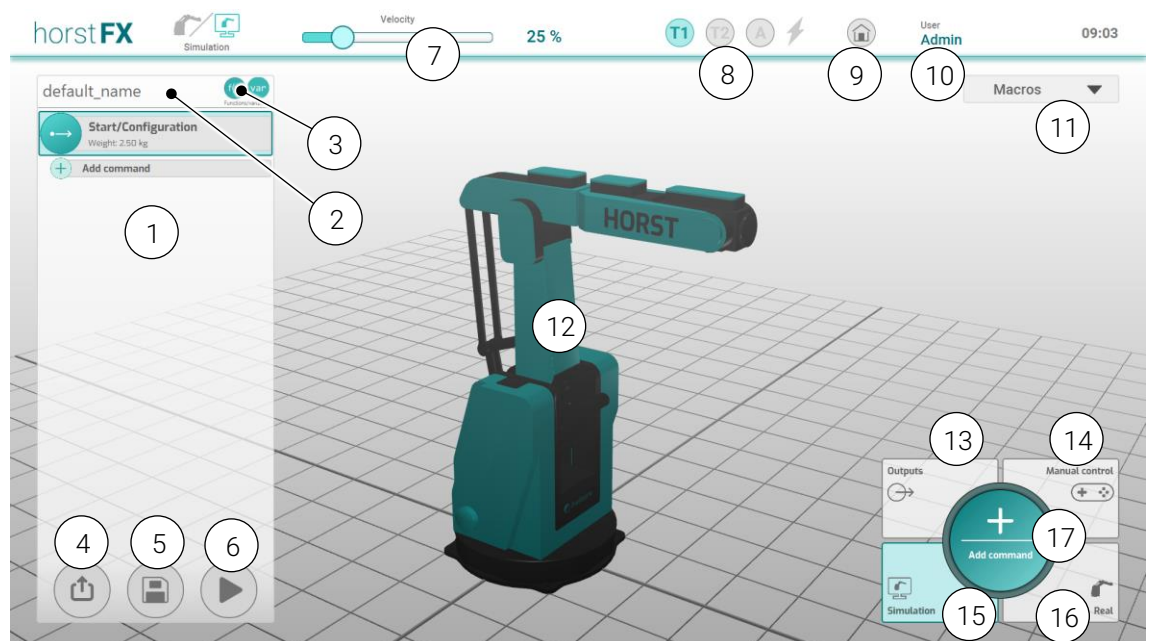

Fig. 6-4: Programming view
By tapping a placeholder or the **Add command** button (see Fig. 6-4) (15) in the programming view, the **action selection area** appears. For each action that is selected, a corresponding action window opens with various configuration and selection options for the action. In addition, a corresponding program block is added to the program tree, always under the last selected program block or instead of a placeholder.